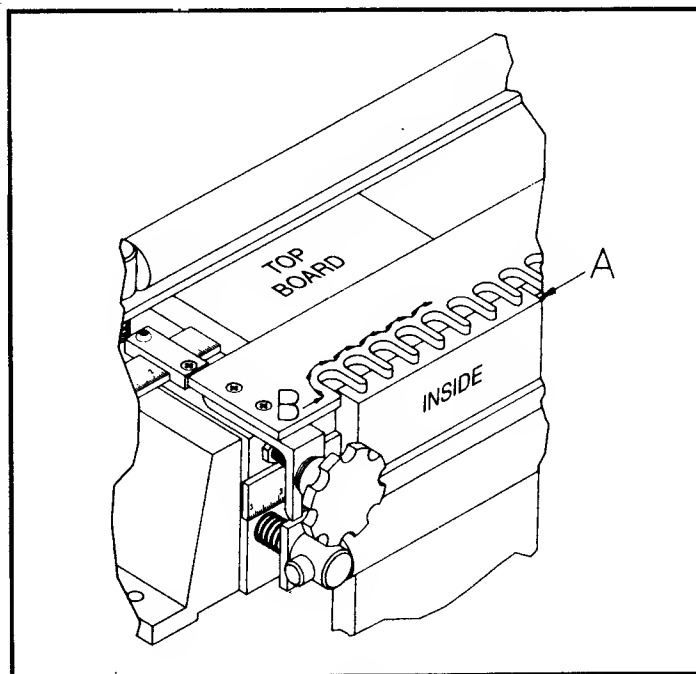

Fig. 10
4. Start the motor and make the first cut along the entire outside edge of the finger templet from right to left, in the direction of the arrow (A) Fig. 10. This will prevent chipping of the edge of the drawer piece when the router is moved in and out of the templet.
5. Now, carefully move the router from left to right around the templet outline, in and out of the slots as shown by arrow (B) Fig. 10.